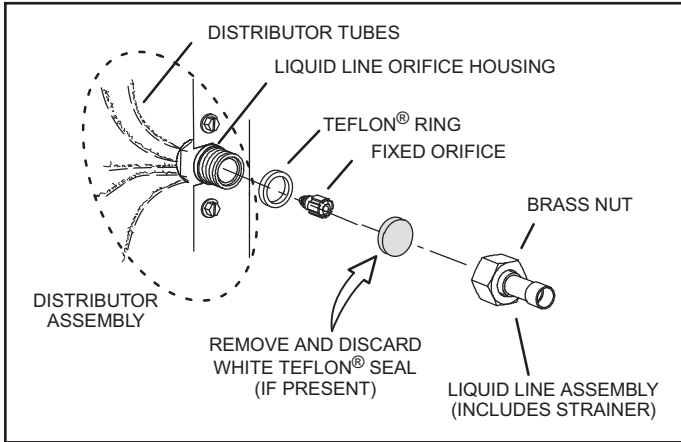

Figure 8. Remove Fixed Orifice (Uncased Coil Shown)
4. Remove and discard fixed orifice, valve stem assembly (if present) and Teflon® washer, as shown in Figure 8.